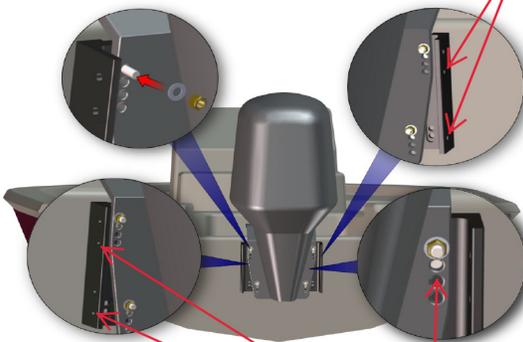

Figure 7
STEP 6: Remount your outboard engine using the hardware recommended by your boat manufacturer and torque to their specifications (**FIG. 7 & 8**).